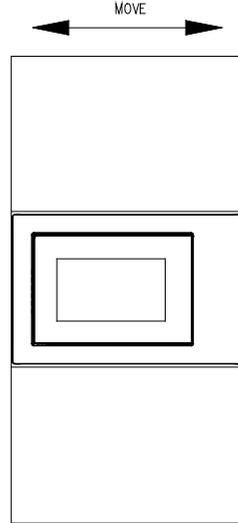

Fig.3
- c) Move the product in parallel in the kitchen cabinet according to the direction of the arrow in the figure, and keep it centered. (Fig.3)